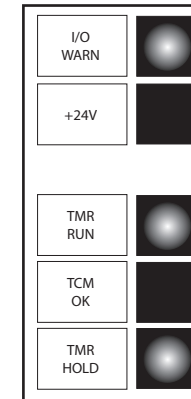

Fig. 5A Timer Close Module LED's
- If Timer Close Module is properly installed, several Timer Close Module LED's will flash, then "+24V" and "TCM O.K." will stay on. (Fig. 5A) (See also page 9 —Troubleshooting Section.)